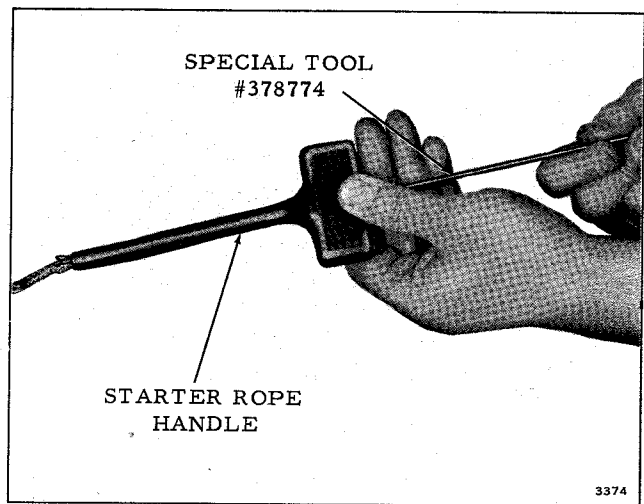

Figure 8-8. Rope Threading Tool
g. Tie knot in rope and thread through hole in pulley and guide hole in housing. Lubricate handle end of rope and install handle, using Evinrude Starter Rope Threading Tool (Special Tool #378774). See Figure 8-8. Lay rope into channel in rope anchor with stiff end of rope butted against end of channel. Press anchor into handle.